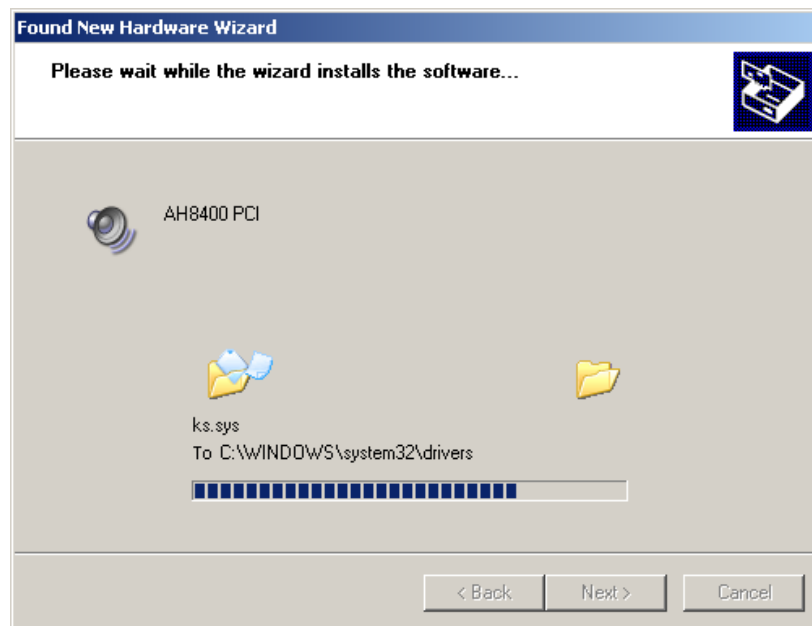

Figure 2.1-11 Driver installation
5. After specifying the path to the folder click **Next** to start installation process (Figure 2.1-11).